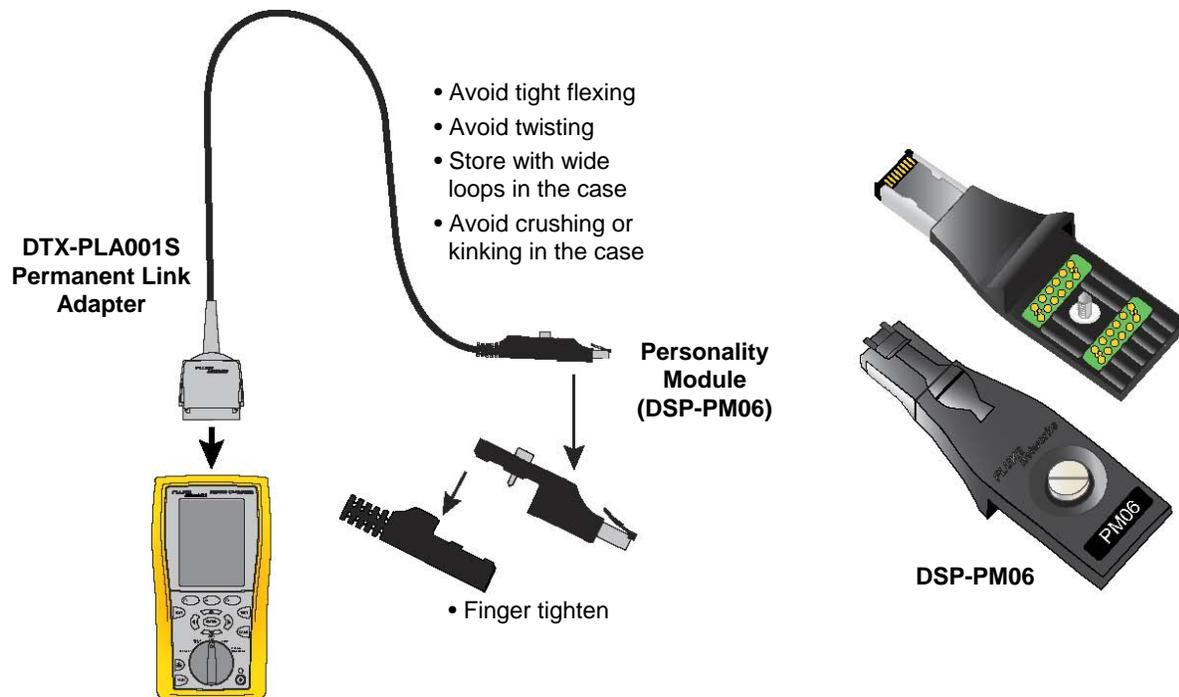

Figure 6. DTX 1800 CableAnalyzer Permanent Link Adapters
- Each Permanent Link Adapter has a Personality Module (PM06) with modular plugs for connecting to the Permanent Link under test, see Figure 6.